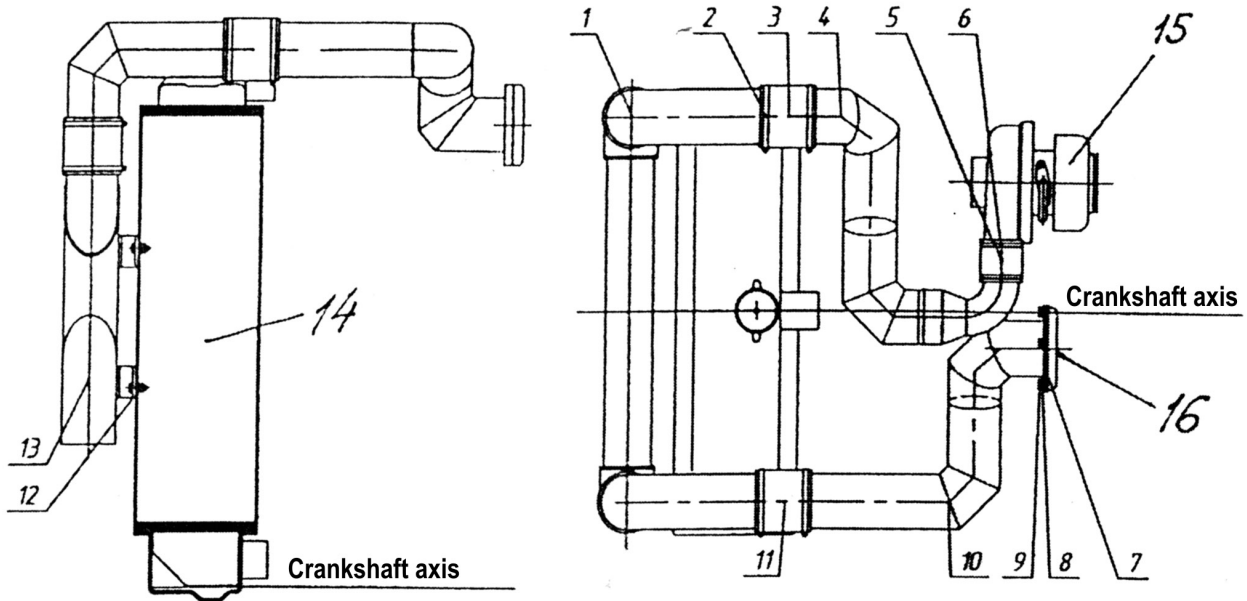

Fig. E-7. CAC outfit:
The charge air cooler (13) (Fig. E-7) is installed in front of the water radiator (14) and connected to the turbocharger (15) and the engine induction manifold (16) through a system of air-ducts (1, 4, 10) and junction branch-pipes (3, 5, 11).